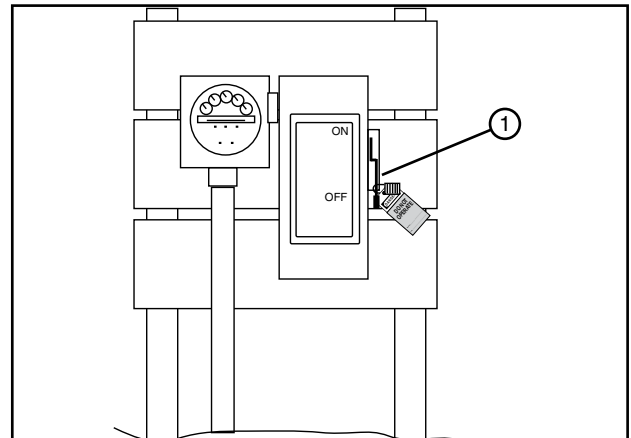

Figure 91-1 1. Public Power Service Disconnect
1. SHUT OFF and LOCK the public power service disconnect to the irrigation machine. See Figure 91-1.
FILL OUT the blue (OSHA safety color code) tag and attach to the disconnect after locking. See Figure 91-1.